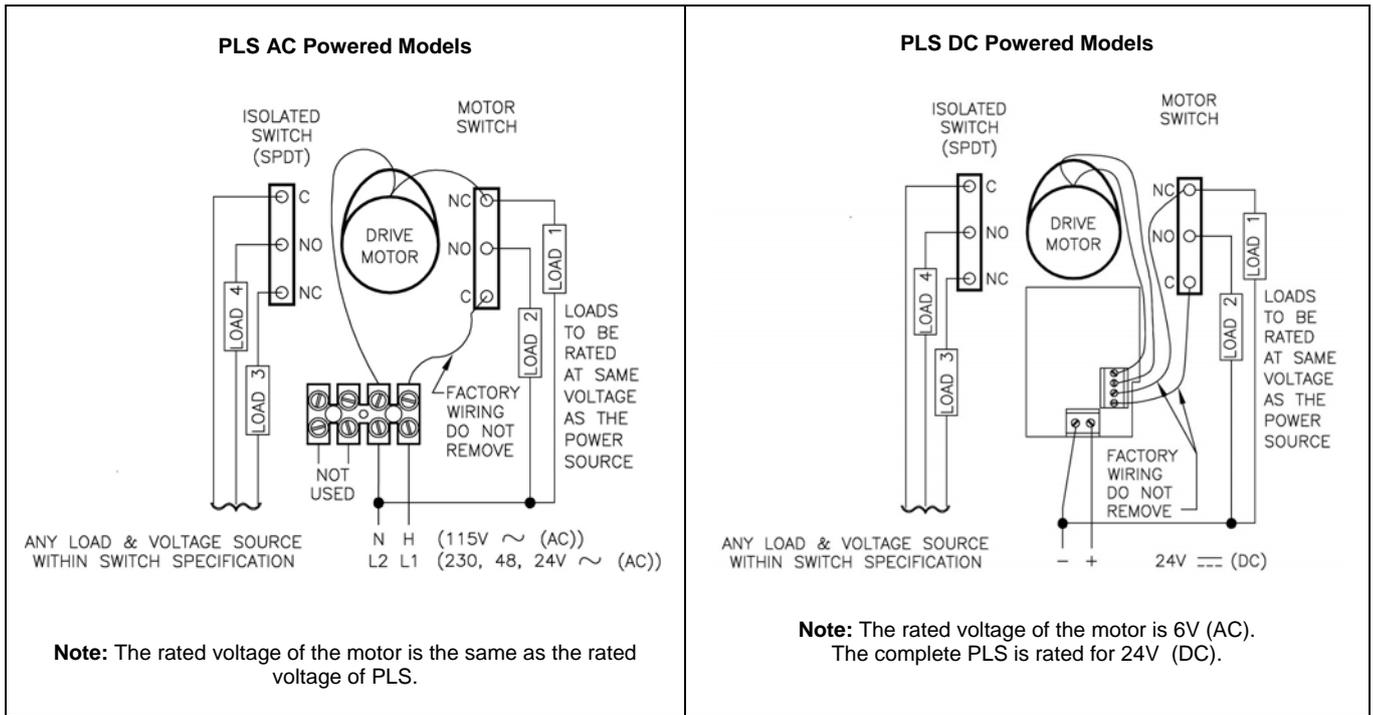

Figure 6
Verify the intended voltage supply is compatible with the voltage configuration indicated on the external nameplate. Connect power as shown in Figure 6.
(7) Output Contacts (See Figure 6)